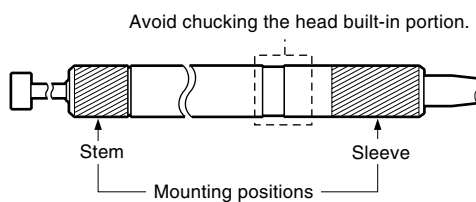

Fig. 1 Mounting positions
- The probe is mounted at the locations of the stem and sleeve (areas indicated with diagonal lines in Fig. 1). Since the head is built into the name label portion, never mount the probe at this portion.